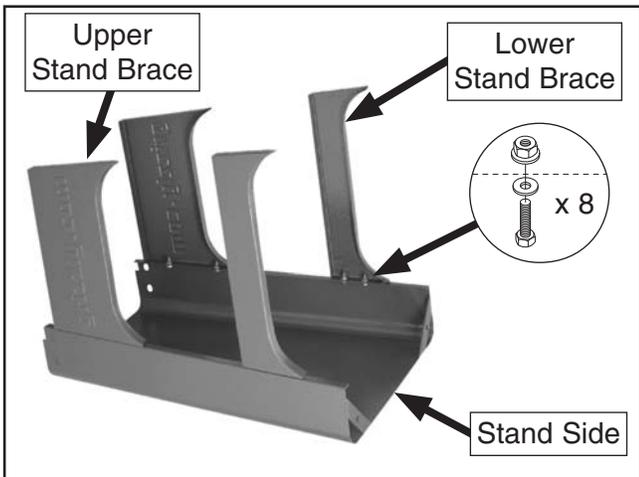

Figure 8. Upper and lower stand braces attached to the stand side.
1. Lay one stand side flat on a piece of cardboard to prevent scratching the paint, then attach the upper and lower stand braces to one side, as shown in **Figure 8**, with (8) $\frac{1}{4}$ "-20 x $\frac{5}{8}$ " hex bolts, (8) $\frac{1}{4}$ " flat washers, and (8) $\frac{1}{4}$ "-20 flange nuts.